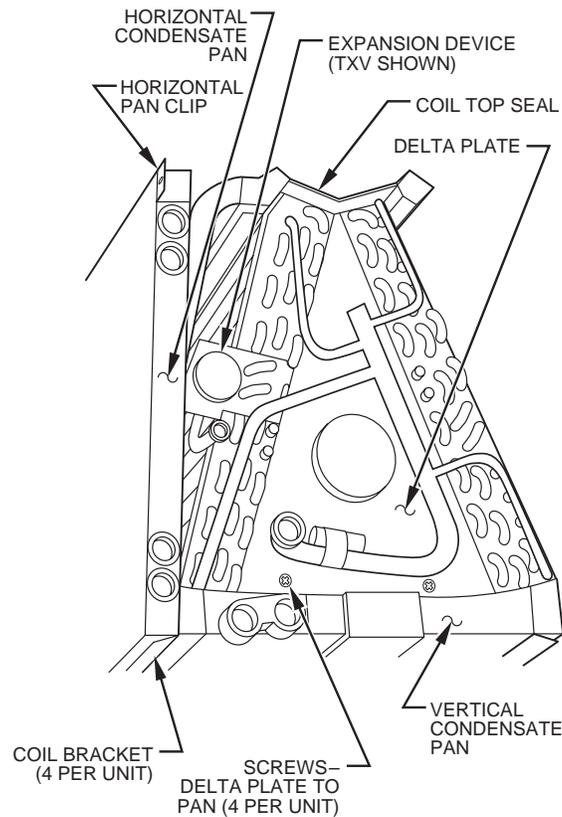

Fig. 43—A-Coil Component Location
8. **Upflow or Horizontal Applications Only**—Remove horizontal condensate drain pan from coil/condensate pan assembly. (See Fig. 43.)
9. Remove 4 coil brackets. (See Fig. 43.)
10. Remove screws at delta plates and remove coil from vertical condensate drain pan. (See Fig. 43.)
11. **Horizontal Applications Only**—Remove coil top seal (attached with 4 screws) and J-shaped tube from original coil and install it in same position on new coil. (See Fig. 43.)
12. Place coil assembly in plastic condensate pan and secure using 4 screws through delta plate. (See Fig. 43.)
13. **Horizontal and Upflow Applications Only**—Attach 4 coil brackets to coil/pan assembly. (See Fig. 43.)
17. **Horizontal Applications Only**—Reinstall horizontal pan clip. Secure with 1 screw. (See Fig. 43.)
17. **Horizontal Applications Only**—Reinstall horizontal pan clip. Secure with 1 screw. (See Fig. 43.) Reinstall coil access panel.